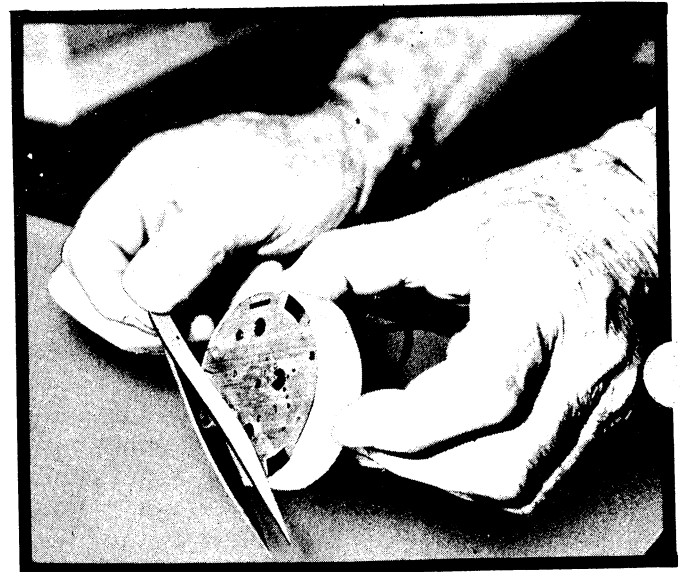

Figure 10A
NOTE: Older models had a separate escapement, Figure 10A, this type of unit would "wind up" and at a predetermined time, the slide retainer would allow the gear to "unwind" each of these wind and unwind periods are "Increments".
- b. Place tweezers over pinion as previously outlined, *Figure 10A*